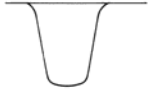

**Figure 5 CONNECTION OF MICROPHONE PLUG**
- 4- As to the alignment of the modulation circuit, be sure to use the microphone plug shown in Figure 5 to be connected to it.